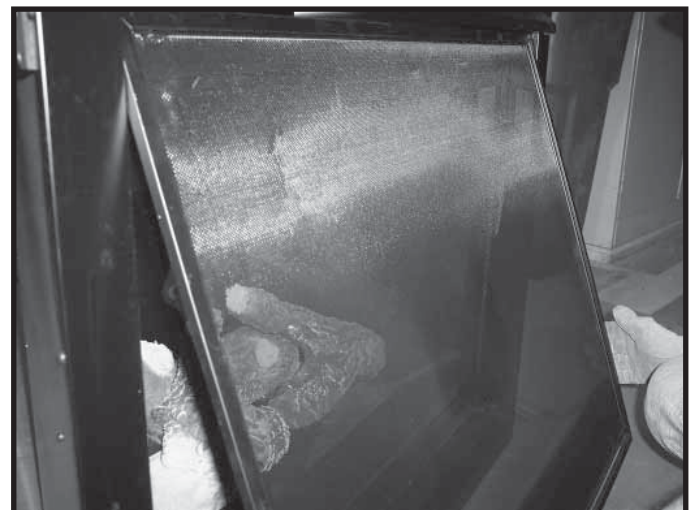

Figure 2. Lift Screen off of Shoulder Screws
2. Grasp mesh assembly on lower bottom corners and lift it upward and outward to disengage it from the upper shoulder screws. See Figure 2.